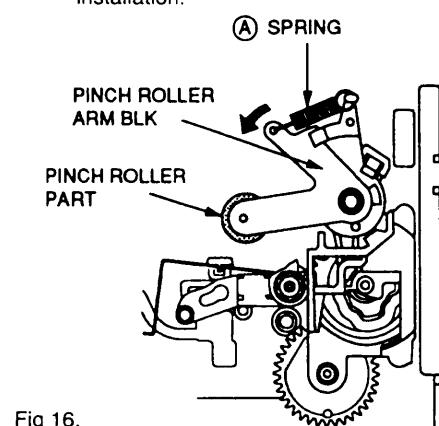

Fig 16.
- Remove the (A) spring, then remove the PINCH ROLLER ARM BLOCK by turning it in the direction of the arrow and pulling it upward as shown in Fig 16.